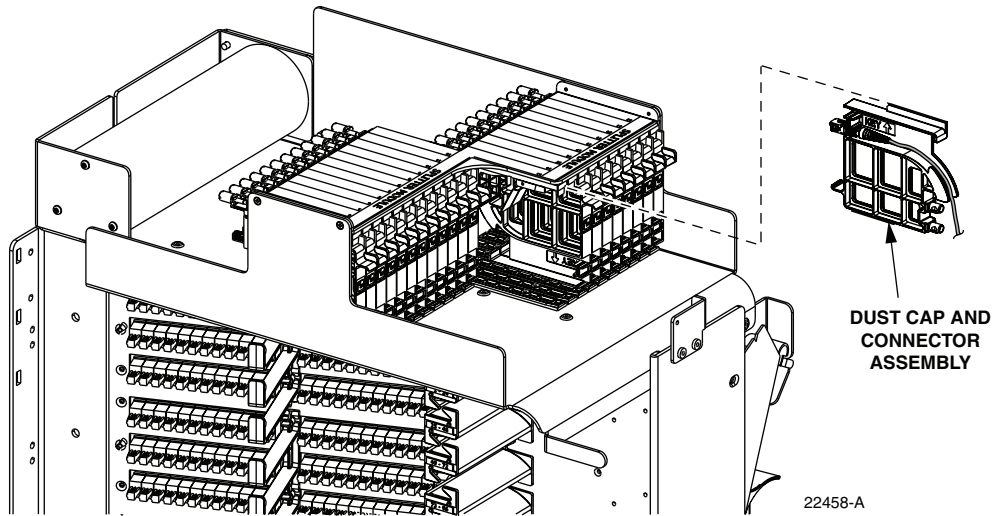

Figure 47. Inserting Dust Cap Assembly Into Splitter Compartment
9. Connect the patch cord connector(s) to the feeder cable connector(s) by inserting the dust cap assembly into the splitter slot as shown in Figure 47.